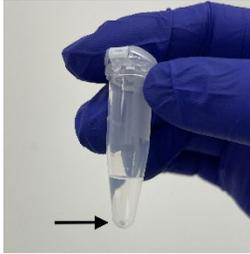

Figure 8. Example of the bead pellet after dissociation and centrifugation.
- Spin the beads down for 2 min at 3,000g at room temperature. A white bead pellet should be visible to the eye (Figure 8).